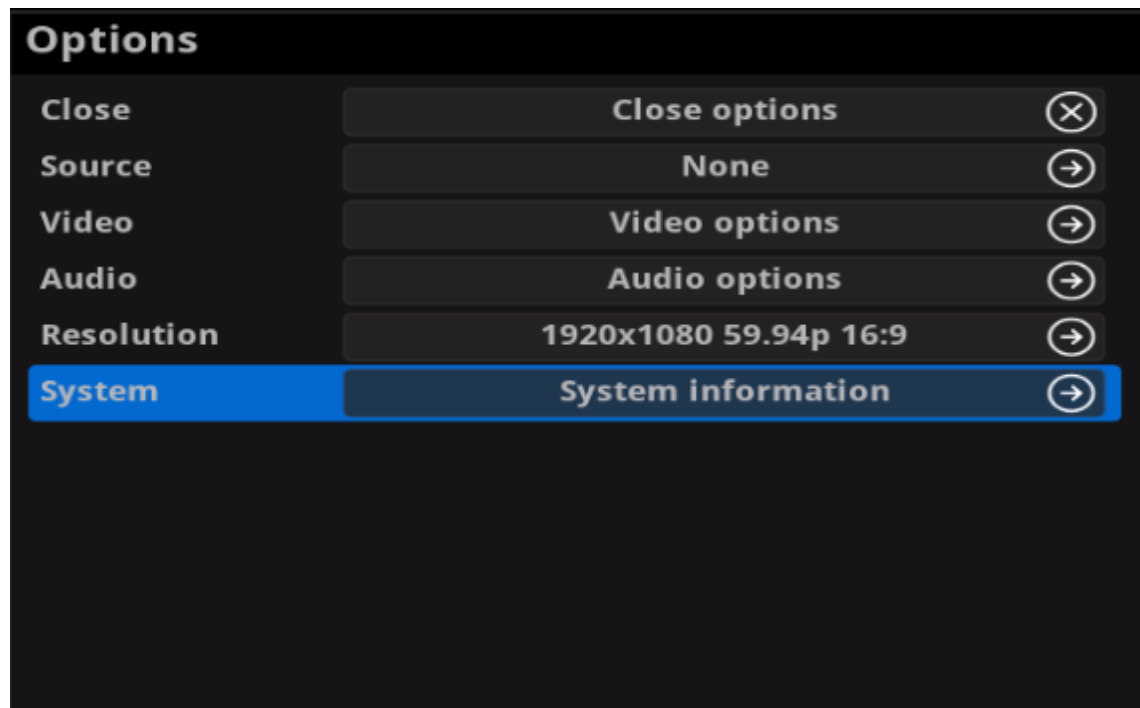

Figure1. Select System in Options menu
- 1 Connect your decoder via Ethernet, power it up and connect a presentation device as shown in the Figure1. Connections.